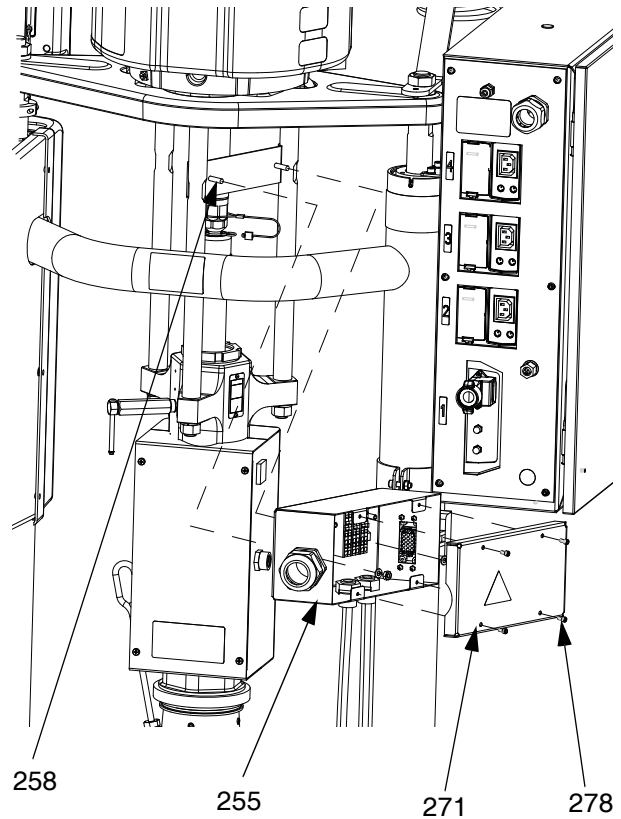

FIG. 36: Remove D60 Junction Box
For smaller platens (D60 3 in. supply systems): Reinstall junction box (255) onto bracket (258). Use screws (278) to attach cover (271). See FIG. 36.